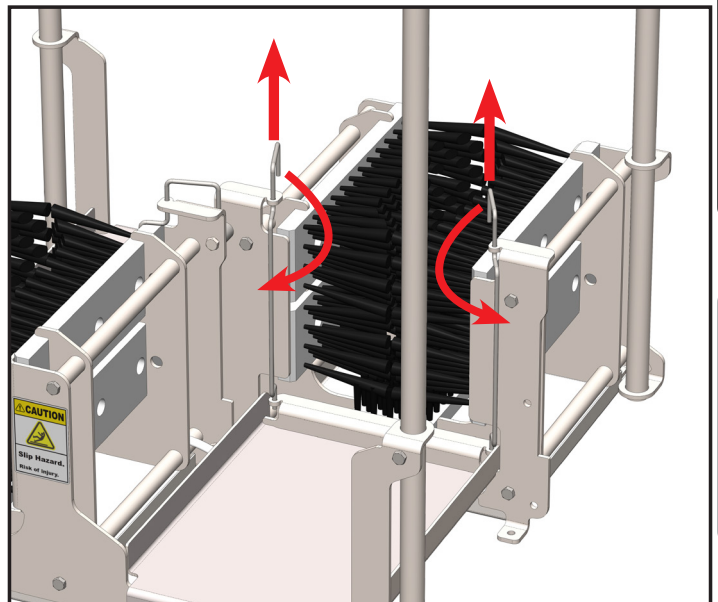

Fig. 5.2: Brush clip rotation for brush removal
2. To remove the brushes, pull up on the clip and twist them outward, as shown in [Figure 5.2].